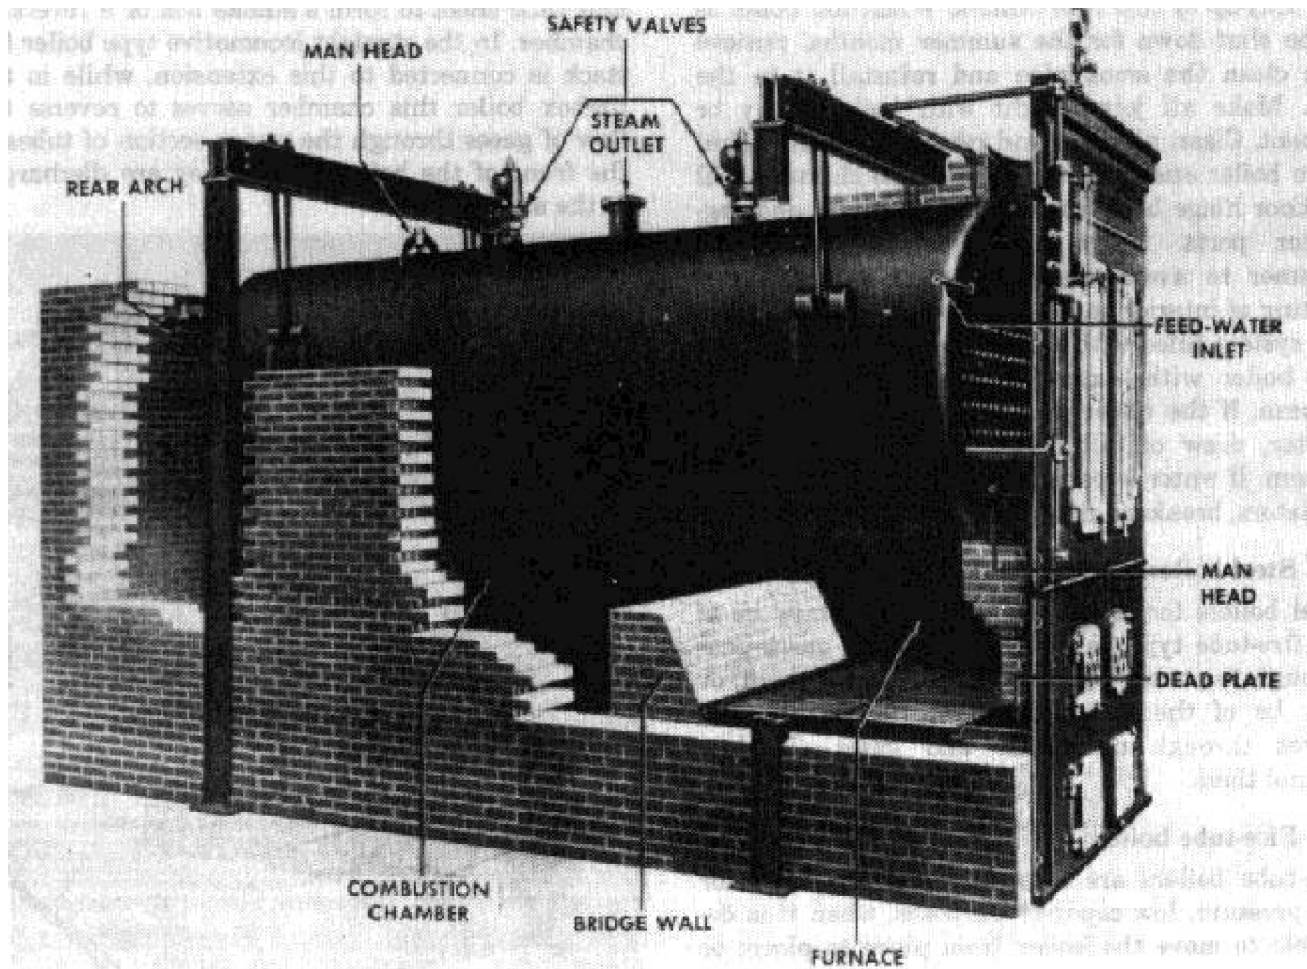

Figure 4-11. Horizontal return tubular boiler.
b. *Horizontal return tubular (HRT) boilers.* The HRT boiler is not usually used for domestic heating installations, but is found in small plants because of its relative compactness, simple construction, and fuel efficiency. A major disadvantage is that it is difficult to keep the tubes and shell free from scale. Figure 4-11 shows a typical HRT boiler in a standard setting.